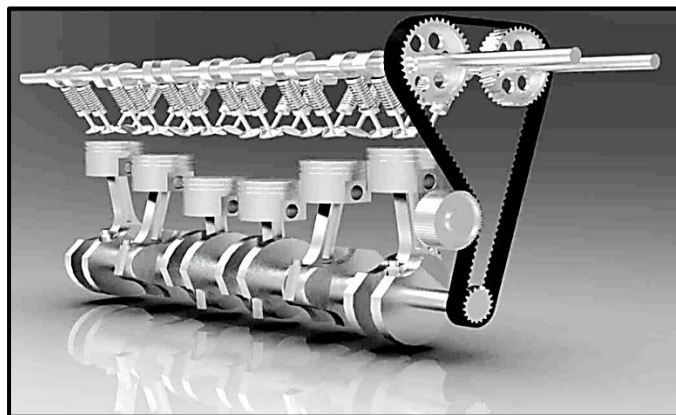

FIGURE 4.8
- (1)
- 4.8 Identify the type of engine cylinder configuration shown in FIGURE 4.8 below.